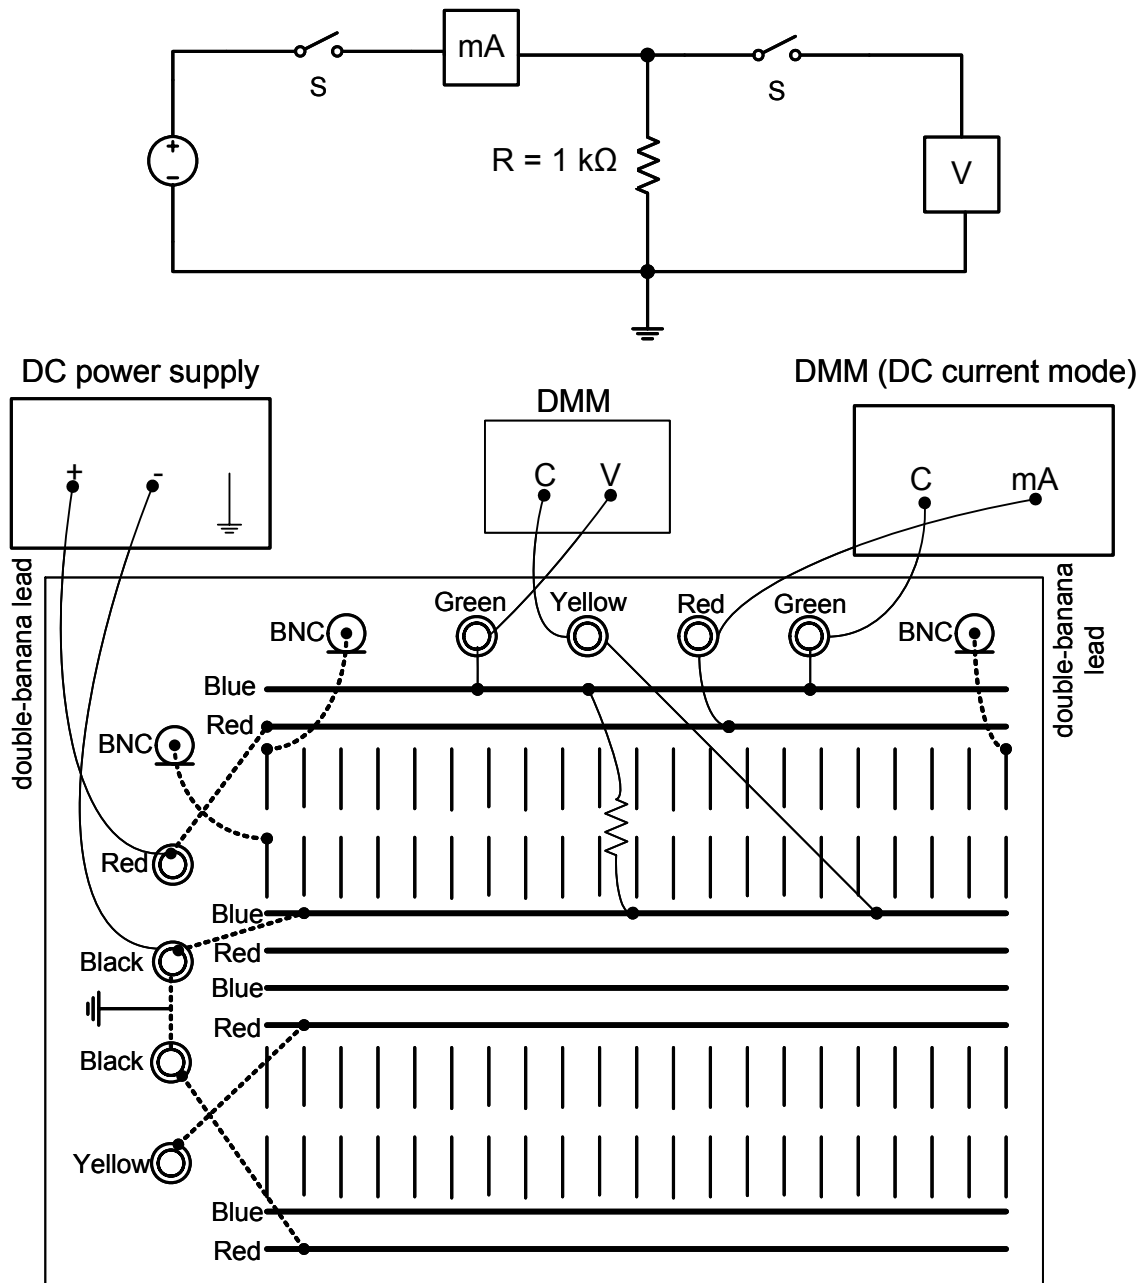

Figure EE.3
- Step 3:** Connect the circuit as shown in Figure EE.3 on the next page, using hook-up wires and both DMMs as shown. This way the voltage across and the current through the resistor can be measured simultaneously.